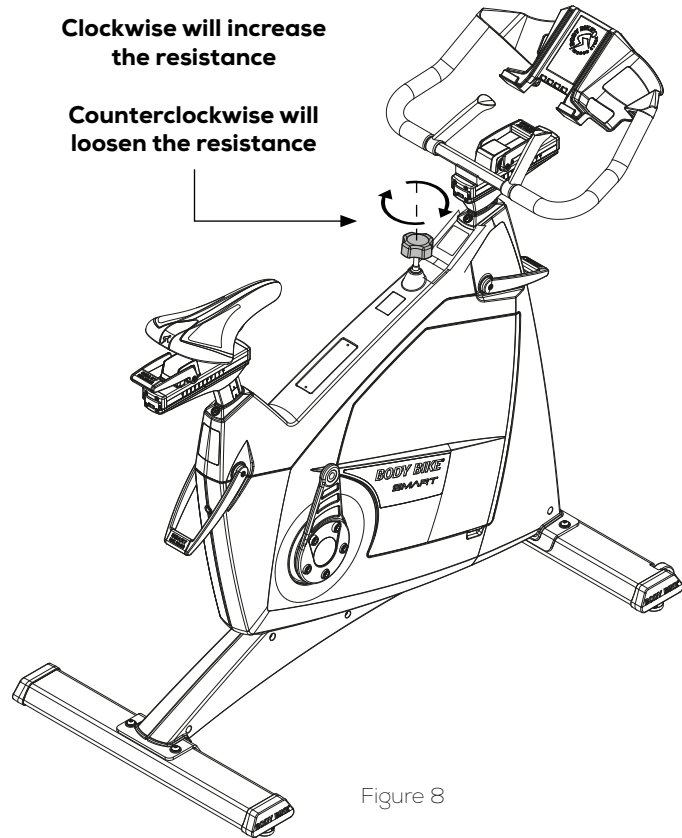

Figure 8
2) Put maximum resistance on the brake, so the pedal arm is unable to rotate, see figure 8.